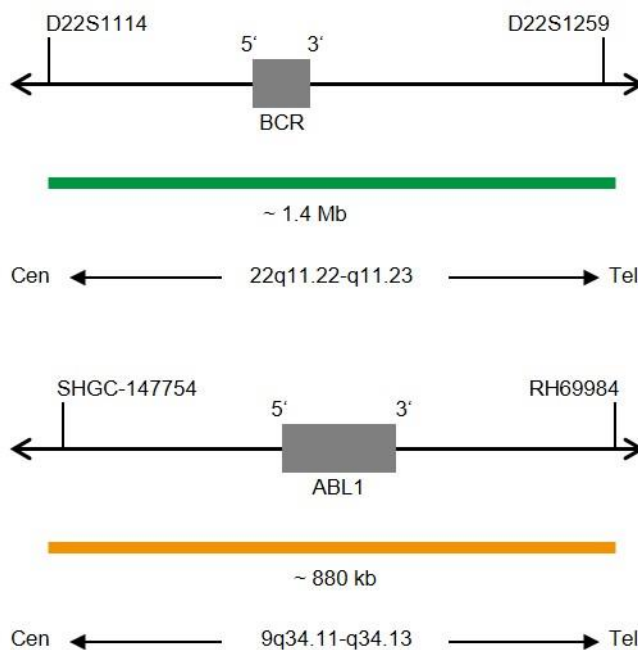

Fig. 1: Top: SPEC BCR Probe map; Bottom: SPEC ABL1 Probe map (not to scale)
- ZyGreen (excitation 503 nm/emission 528 nm) labeled polynucleotides (~12 ng/μl), which target sequences mapping in 22q11.22-q11.23* (chr22:23,000,029-24,431,064) harboring the BCR gene region (see Fig. 1).
- ZyOrange (excitation 547 nm/emission 572 nm) labeled polynucleotides (~6 ng/μl), which target sequences mapping in 9q34.11-q34.13* (chr9:133,223,081-134,103,849) harboring the ABL1 gene region (see Fig. 1).